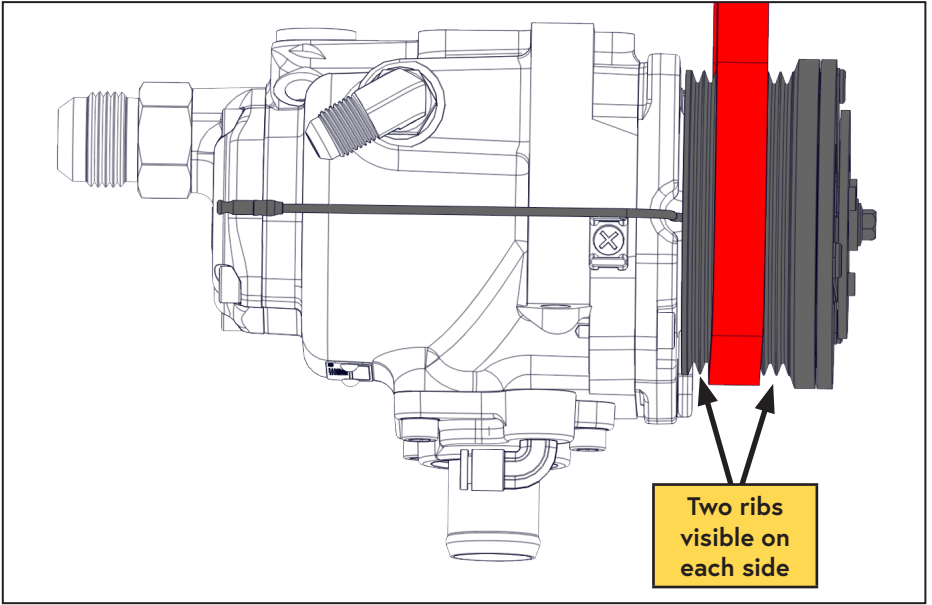

Figure 29 — Align belt on clutch
- Ensure the 4 rib belt is centered on the 8 rib compressor clutch. Two clutch ribs should be visible on each side of the belt (Figure 29).